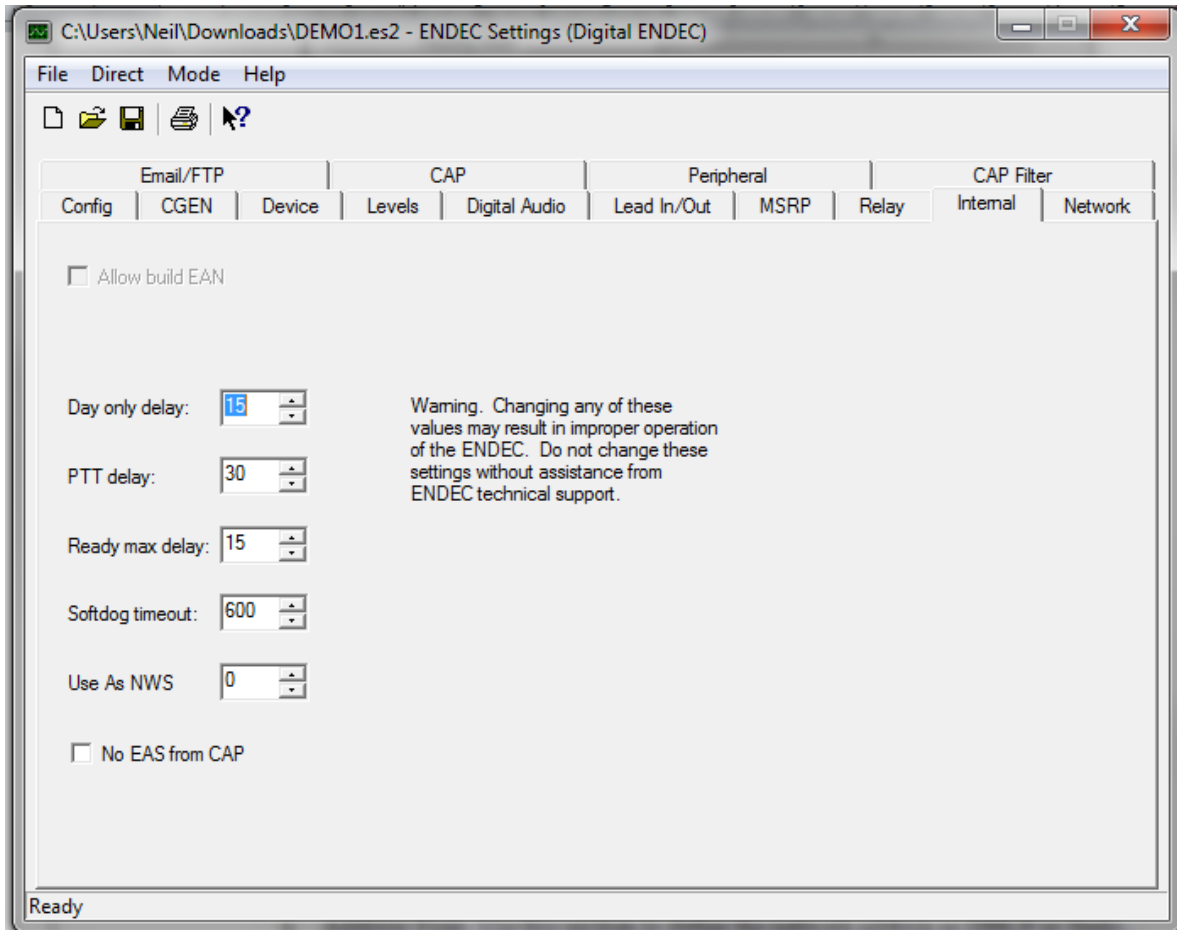

Figure 7.
- If you believe these have been changed, you can verify the settings by comparison with Figure 7.